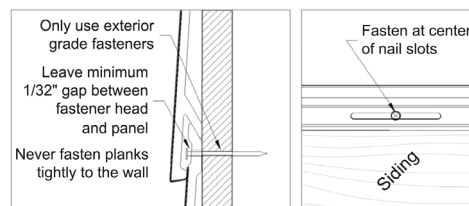

Figure 5
- Everlast is a floating siding system that accommodates lateral expansion and contraction within pocketed trim. Therefore, never hard nail siding planks tightly to the wall (Figure 5).
- Always fasten siding planks through the center of the pre-punched nailing slots (Figure 5).
- Always leave a minimum 1/32" gap between the nail head and the nailing hem (Figure 5).
- Be sure the fasteners are long enough to penetrate a minimum 3/4" beyond the sheathing. Note: Fasten into studs when possible (Figure 5).